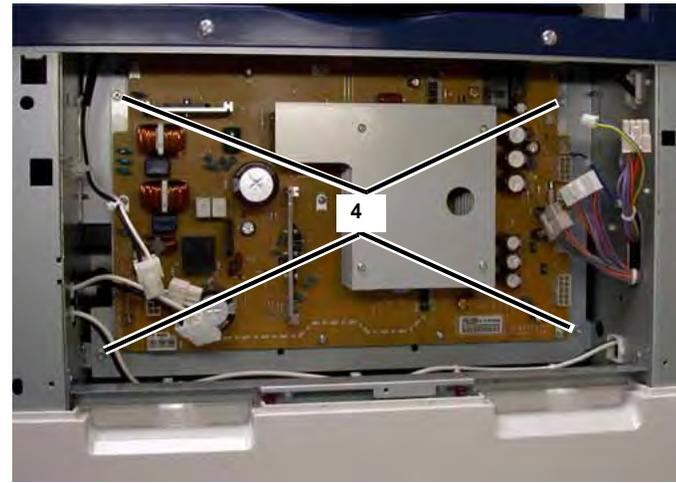

Figure 3 Removing Screws
4. Remove the Main LVPS and Chassis (4 Screws) (Figure 3).